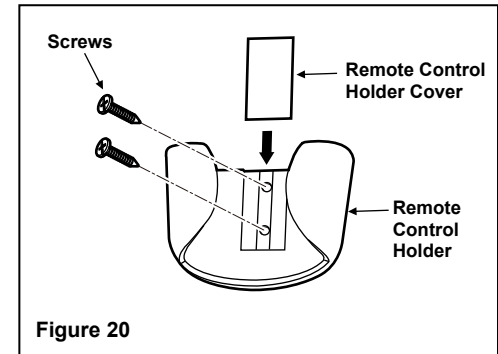

Figure 20
**Step 2.** Attach the remote control holder with the two remote control holder mounting screw provided. (Fig. 20)